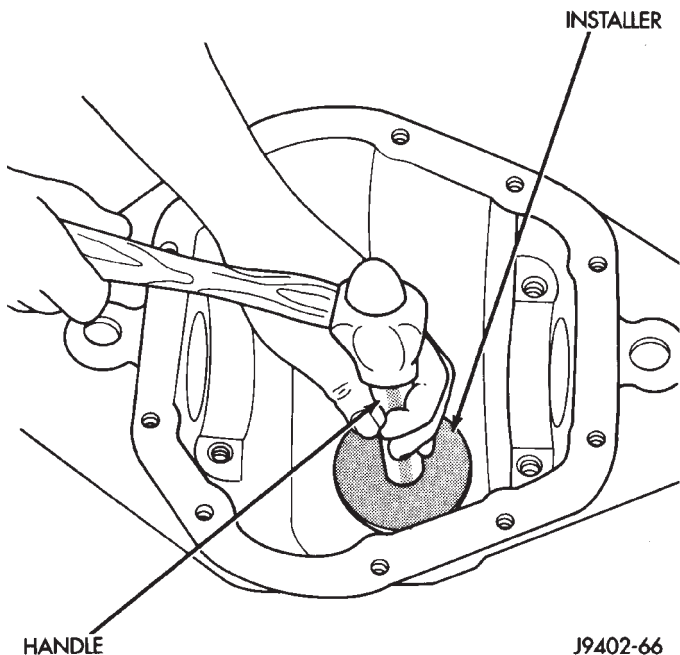

Fig. 51 Pinion Rear Bearing Cup Installation
(1) Apply Mopar® Door Ease stick lubricant to outside surface of bearing cup. Install the pinion rear bearing cup with Installer C-4308 and Driver Handle C-4171 (Fig. 51). Ensure cup is correctly seated.